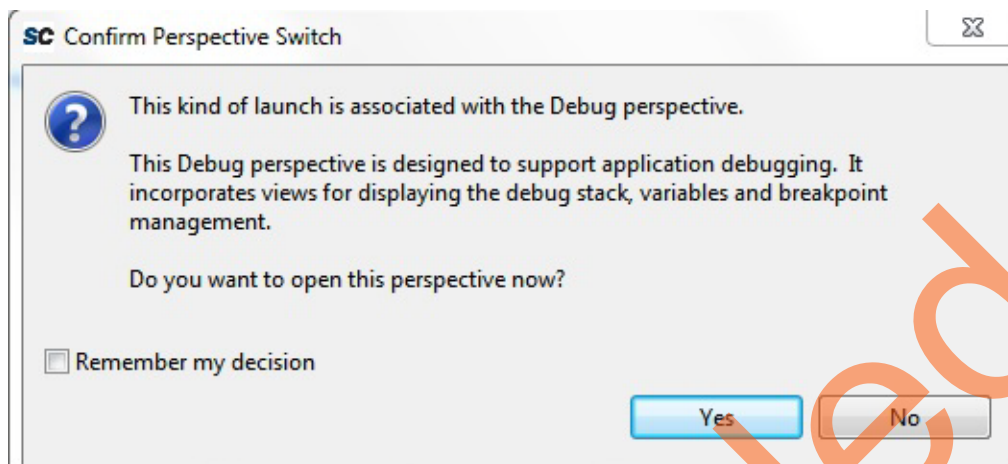

Figure 52 • Confirm Perspective Switch
- Click **Yes**, when prompted for **Confirm Perspective Switch**. This displays the debug view mode as shown in Figure 52.